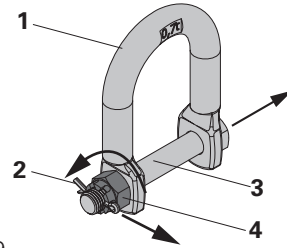
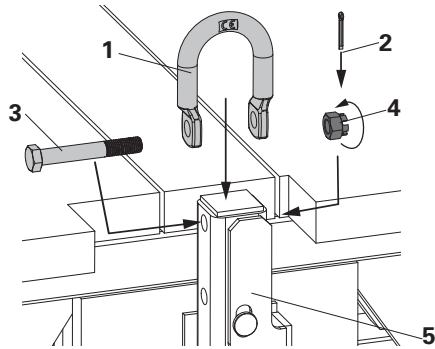
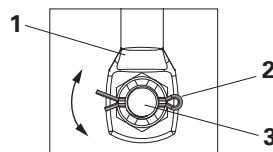
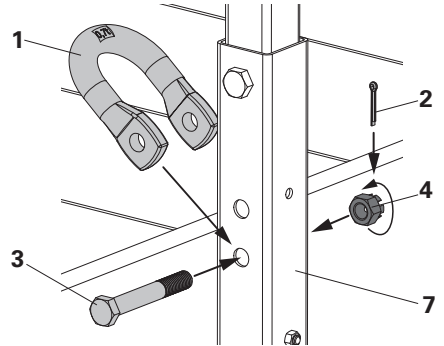

Fig. 9
Fig. 10
Fig. 11a
Fig. 12
1. Remove Split Pin (2). (Fig. 9)
2. Loosen Castle Nut (4) by turning anti-clockwise and remove from Bolt (3). (Fig. 9)
3. Remove Bolt (3).
4. Place Crane D-Ring (1) on mounting position. (Fig. 10)
5. Push the Bolt (3) through the holes of the Crane D-Ring (1) and top hole of the Climbing Bracket (5). (Fig. 10)
6. Screw Castle Nut (4) onto the Bolt (3) in a clockwise direction.
7. Insert the Split Pin (2) through the hole in the Bolt (3) and spread pin arms. (Fig. 11a)
4. Place Crane D-Ring (1) on mounting position on the Guardrail Post Extension (7). (Fig. 12)
5. Push the Bolt (3) through the holes of the Crane D-Ring (1) and third hole from the top of the Guardrail Post Extension (7). (Fig. 12)
6. Screw Castle Nut (4) on to the Bolt (3) in a clockwise direction.